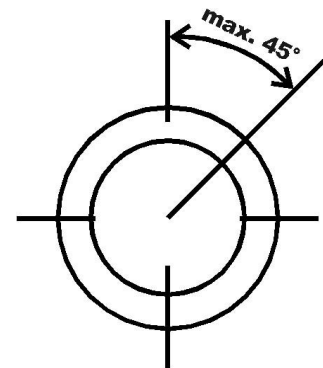

Fig. 1
- ↪ The switches should only be installed in a vertical position, deviation max. 45° (Fig. 1).